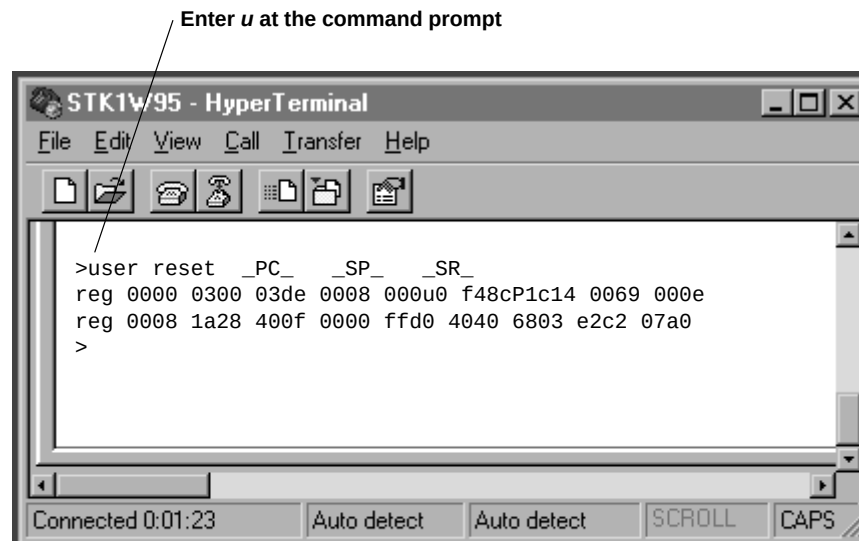

**Figure 2–5. User Reset Command**
- r[i]** The `r` <ENTER> command, shown in Figure 2–6, without a specific register number, shows all 16 CPU registers R0 to R15. With this syntax, a modification of the register contents is not possible.